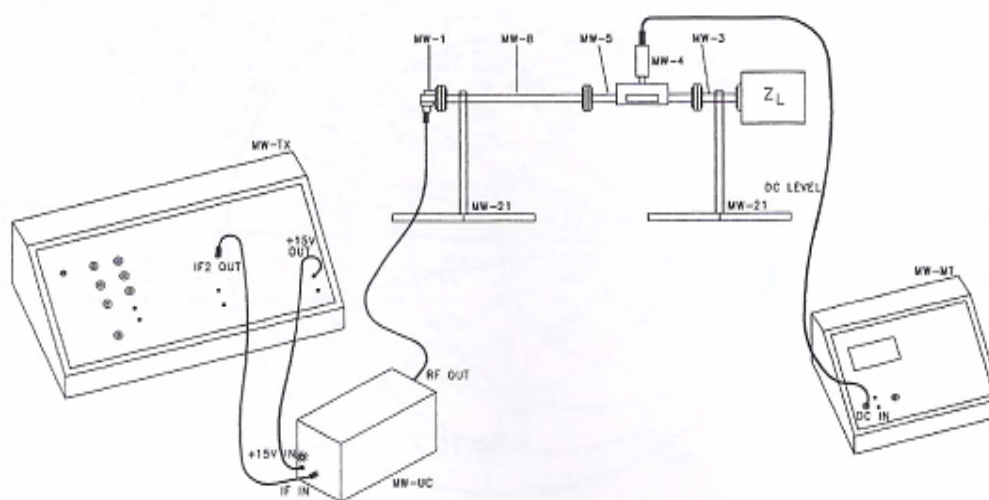

Figure 2
1. Carry out wiring between the unit as indicated in *Figure 2*.